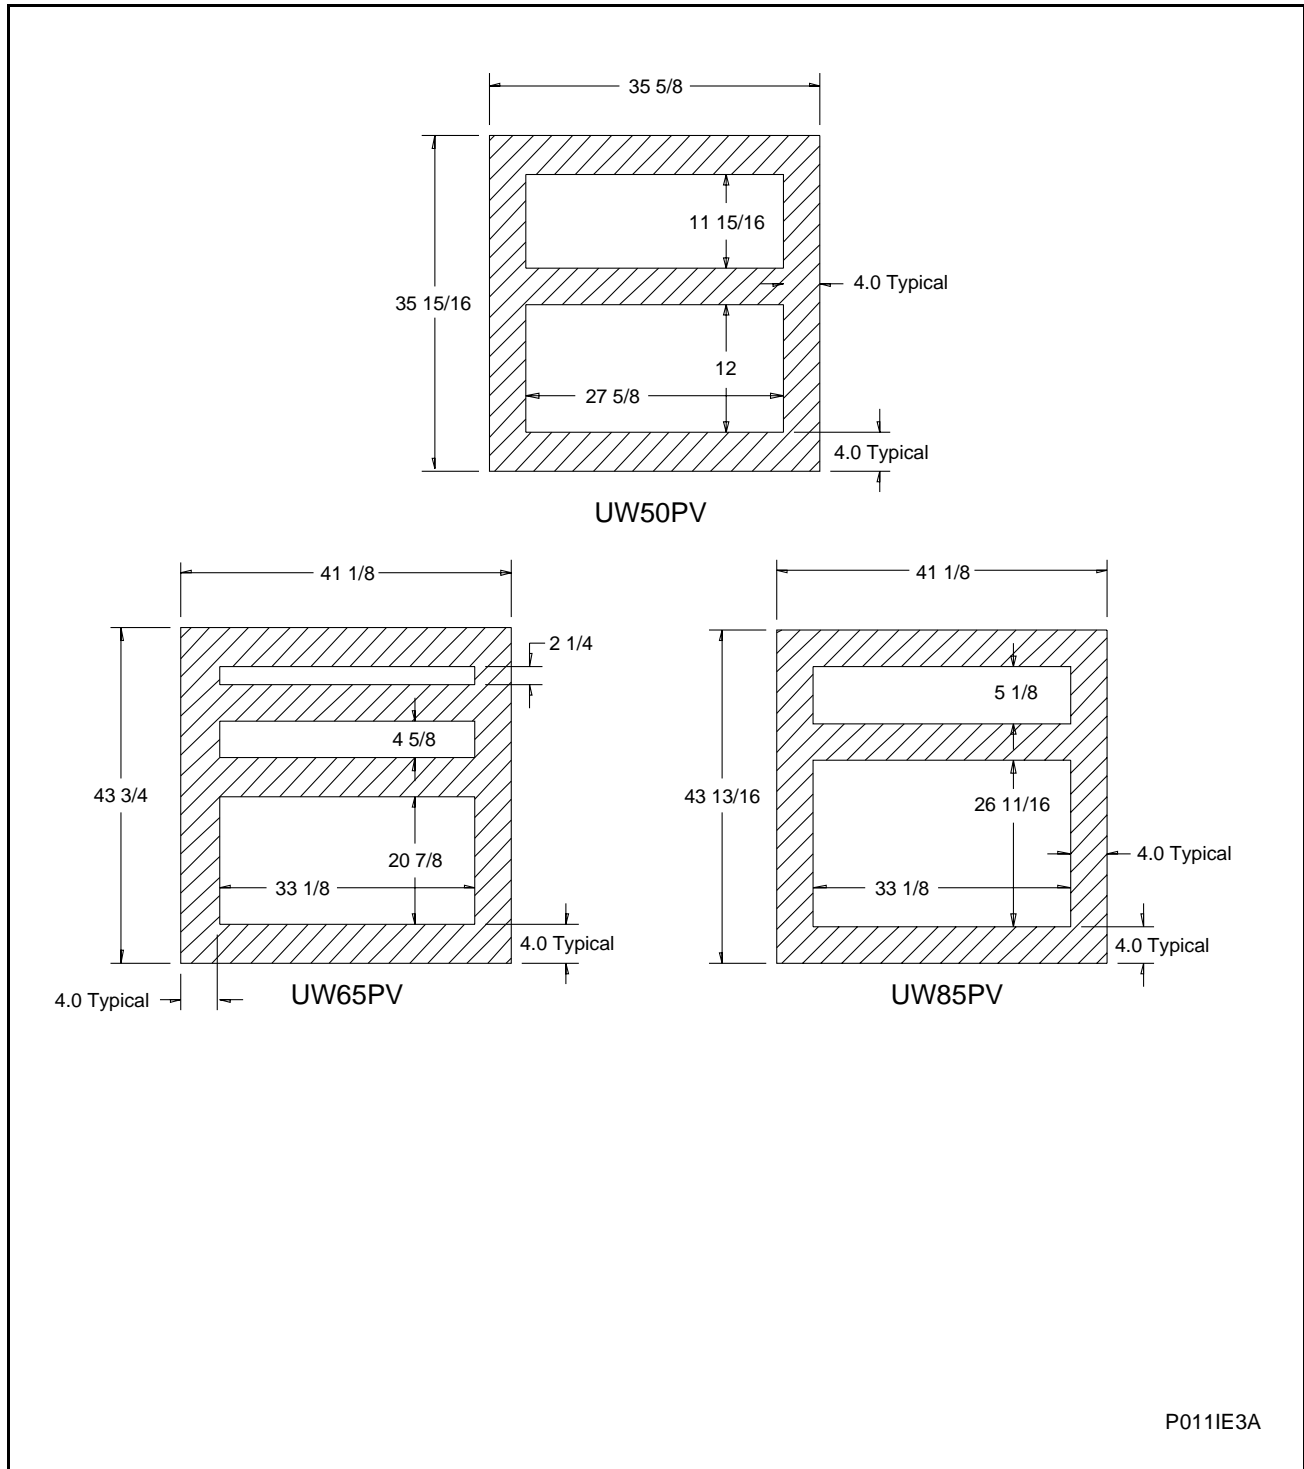

Figure 7
5. Fill the space between the washer-extractor base and the floor with a good quality non-shrinking machinery grout to ensure a stable installation. Grout completely under all frame members. (Remove front panel and expanded metal back panel to gain access to **all** frame members.) See Figure 7. Force grout under machine base until all voids are filled.